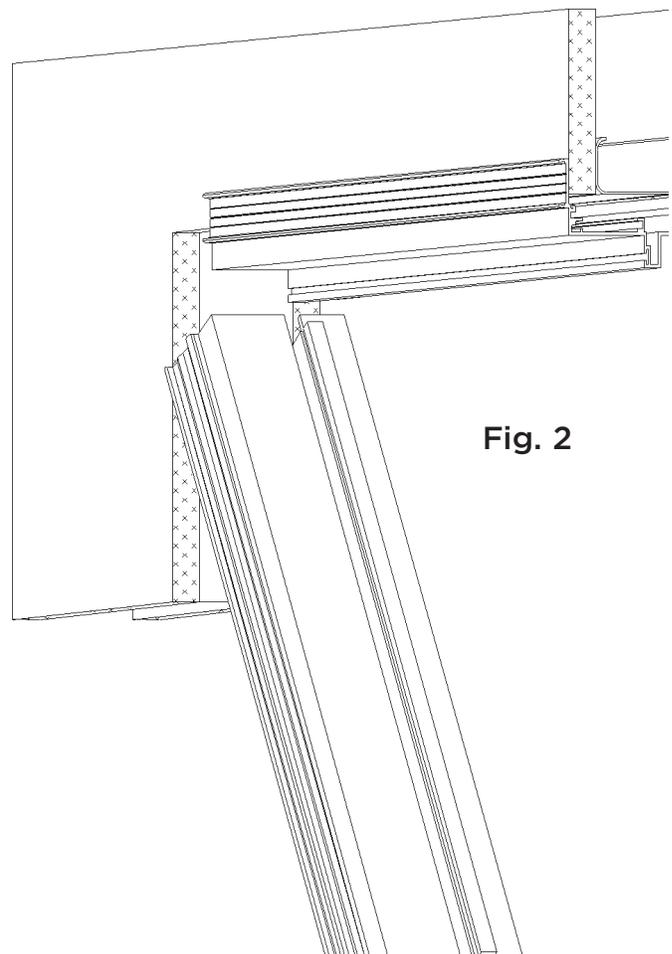

Fig. 2
5. Hold jambs at an angle and slip the upper portion over the wall. Push upward to engage notch with door stop on header, then push the rest of the jamb over the wall.(Fig. 2)